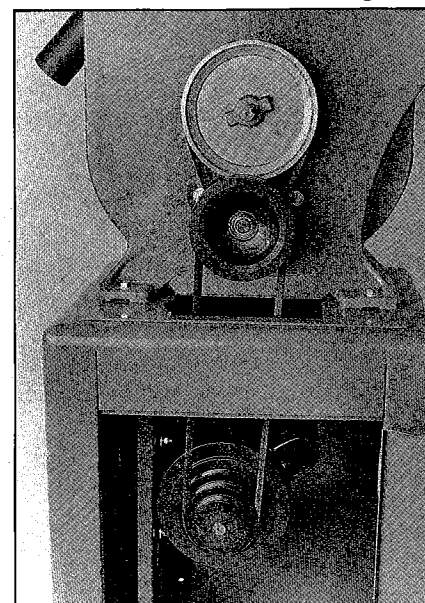

Fig. 6
11. Loosen the four motor mount bolts. Place the larger V-belt (VB-A38) around the motor pulley and the middle pulley assembly. See figures 6 and 7. See figure 8 (next page) for the desired speed selection.